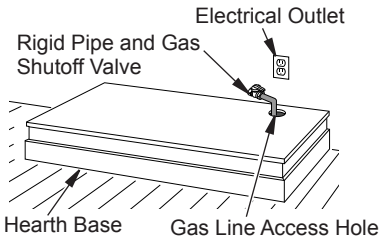

Figure 9 - Placing Hearth Base Accessory Against Wall
- When installing blower, install a properly grounded, 120 volt three-prong electrical outlet at fireplace location if an outlet is not there. If possible, locate outlet so cabinet mantel will cover it when installed (see Figure 9, page 11).
- Place hearth base accessory against wall at installation location. Cut an access hole in hearth top to run flexible gas line to fireplace (see Figure 9, page 11). Make sure to locate access hole so cabinet mantel will cover it when installed. **Note:** You can secure base to floor using wood screws. Countersink screw heads and putty over.